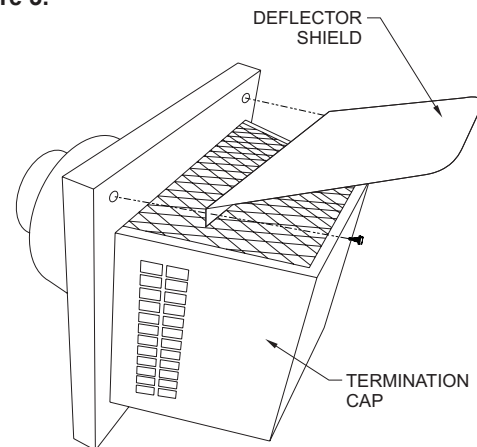

Figure 3
10. Secure the termination cap to the house exterior using four 1/8 x 3" long screws. Be sure to install the Deflector Shield with the two screws at the top of the termination base. **See Figure 3.**